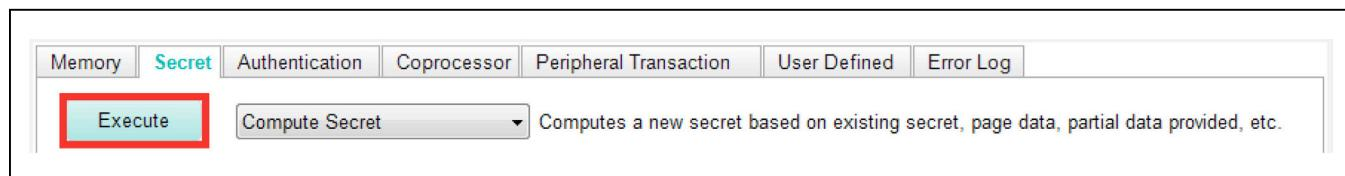

Figure 16. Compute Secret
- 12) Generate and load a unique slave secret (S-Secret) into the MAX66242 using the Compute Secret command by clicking the **Execute** button (Figure 16).